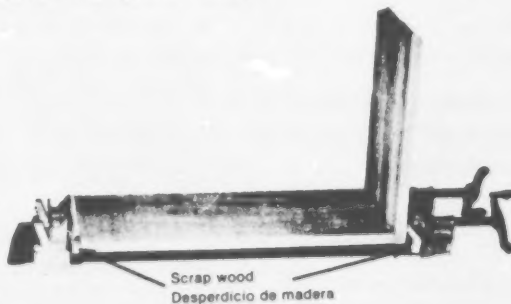

Figure 13-2 Clamping
2. Clamp the parts together. If you are using metal clamps, place pieces of scrap wood between the clamps and the stock to protect your project part from being damaged (*Figure 13-2*).